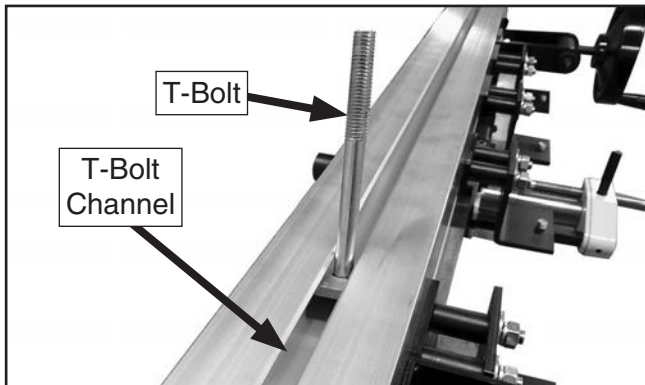

Figure 8. T-bolt installed into slot on bottom of copy attachment (1 of 2).
- Tip copy attachment upside down so bottom channel is facing upwards, then slide (2) M10-1.5 x 100 T-bolts into channel (see **Figure 8**).